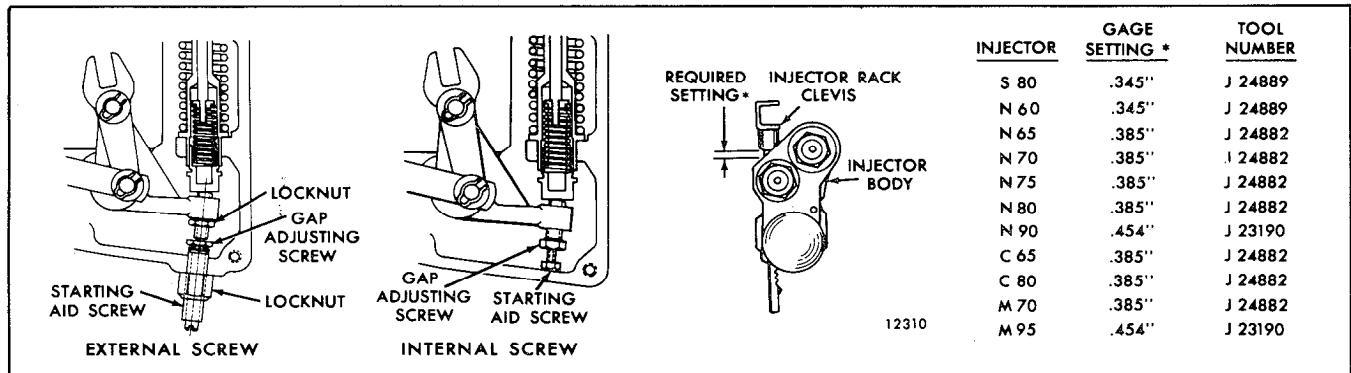

Fig. 7 - Starting Aid Screw Adjustment
The starting aid screw (Fig. 7) is threaded into the governor housing of current engines and into the governor gap adjusting screw of early engines. This screw is adjusted to position the injector racks at less than full fuel when the governor speed control lever is in the idle position. The reduced fuel makes starting easier and reduces the amount of smoke on start-up.
- b. Adjust the starting aid screw to obtain the required setting between the shoulder on the injector rack clevis and the injector body (Fig. 7). Select the proper gage and measure the setting at any convenient cylinder. When the starting aid screw is properly adjusted, the gage should have a small clearance of 1/64" (.397 mm) in the space along the injector rack shaft between the rack clevis and the injector body.
- b. Hold the gap adjusting screw, to keep it from turning, and adjust the starting aid screw to obtain the required setting between the shoulder on the injector rack clevis and the injector body (Fig. 7). The setting is measured at the No. 3R injector rack clevis.